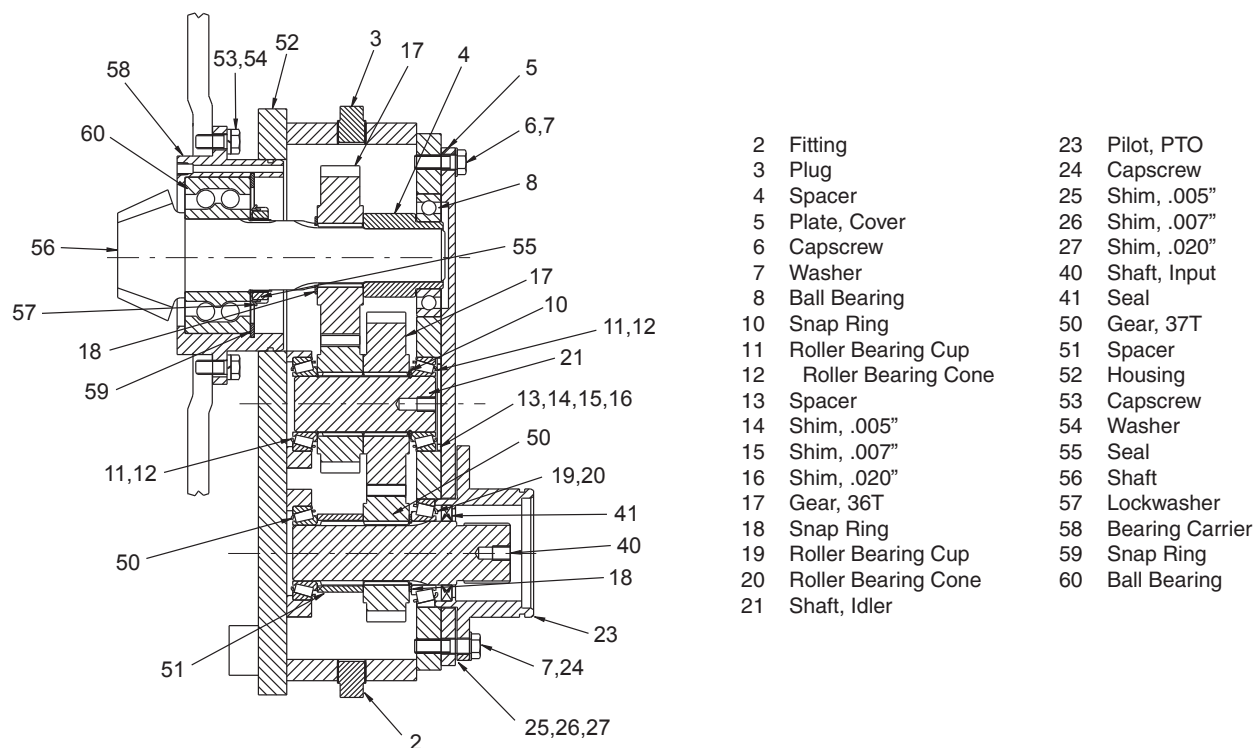

**Figure 4-17 1:1 Dropbox for Caterpillar 583R, 583T, 587T, D8R, D8T
**NOTE:** If equipped with a dropbox, refer to Figures 4-17 through 4-19 on pages 4-51 and 4-52 for location of components. Assembly of the PTO shaft is essentially the same for most tractors as shown in steps 1 through 5.